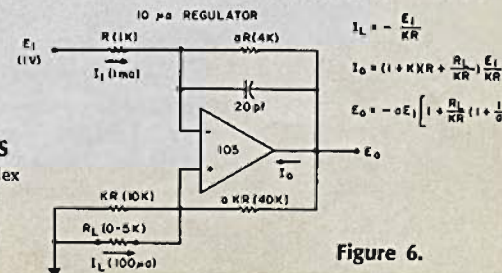

Figure 6.
3. Larger percentage of output voltage across load than Figure 6